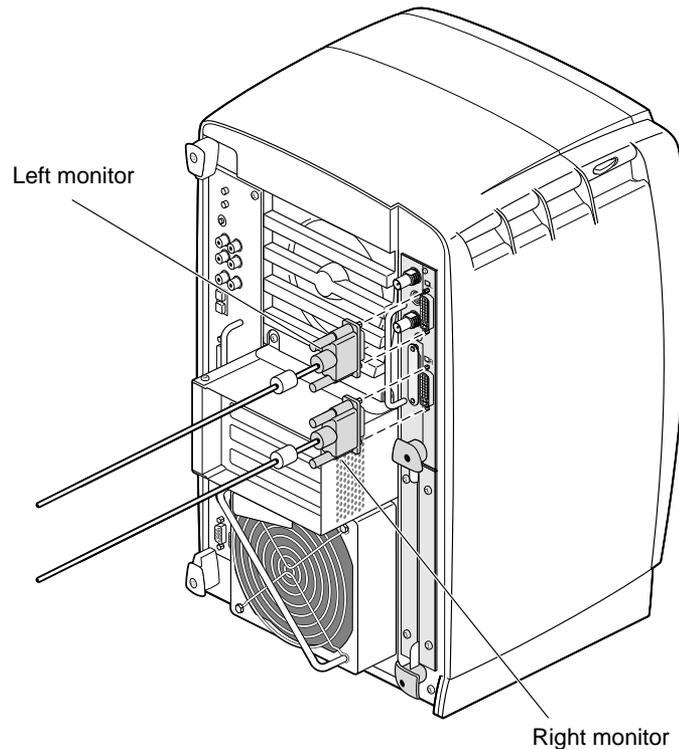

Figure 2-2 Connecting the Monitor Cables to the Display Option Board
1. Connect the left monitor's DVI/VGA cable to the top video connector (channel 0) on the Display Option board, as shown in Figure 2-2.